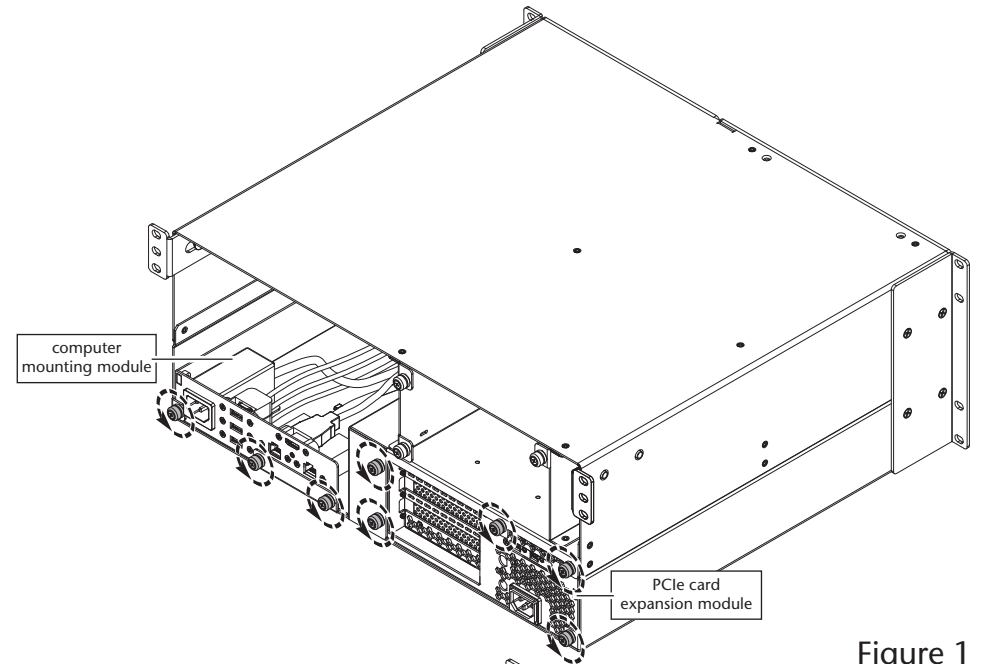

Figure 1
2. Loosen the eight thumbscrews securing the computer mounting module and PCIe card expansion module to the back of the rackmount enclosure (**Figure 1**).